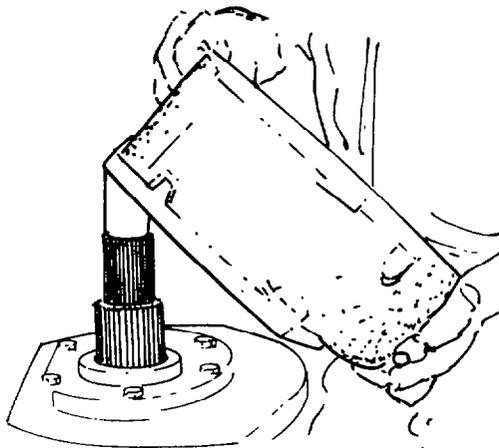

Fig. 257 — Installing Front Drive Housing
- z. Install the front drive housing (see fig. 257), torque the bolts to 130 – 170 Nm (95 – 125 lb.ft) and the nuts to 75 – 100 Nm (55 – 75 lb.ft).